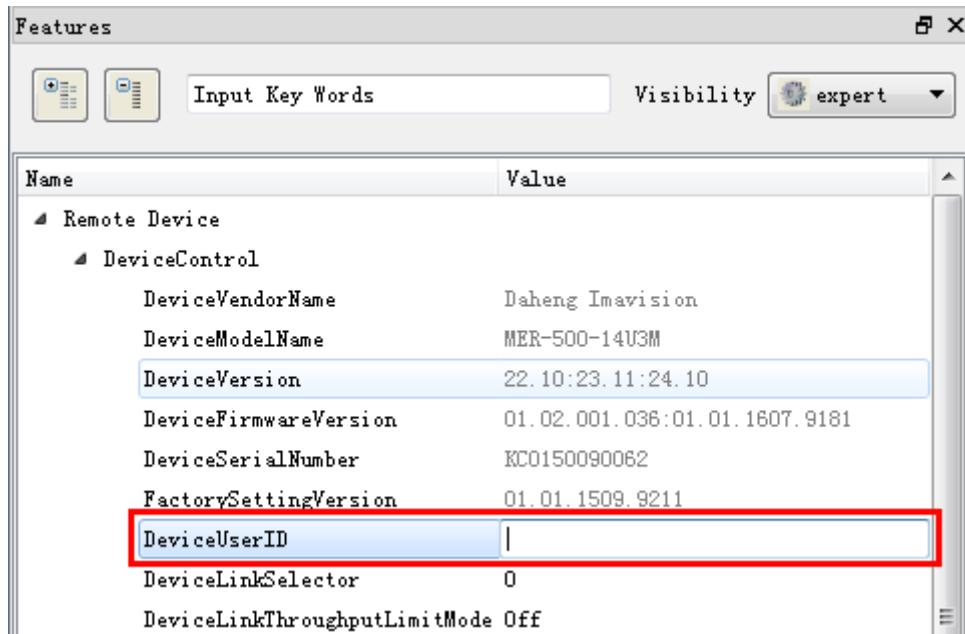

Figure 8-45 GalaxyView software
- 1) Set by the GalaxyView, as shown in the Figure 8-45.